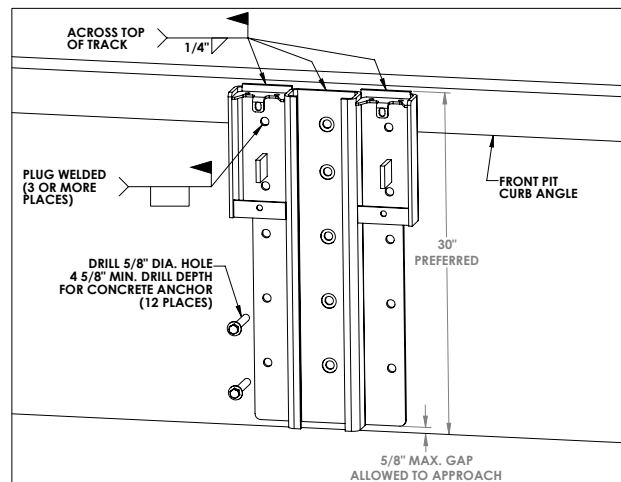

FIGURE 3—ANCHORING ROLLER TRACK
Install roller track onto dock face at specified location by welding to an embedded steel plate or by using fifteen (15) concrete anchors provided in conjunction with welding to pit steel and a leveler frame. Refer to Figures 3, 4, and 5.
4. Install all anchors and torque to 60 ft-lbs. See Figure 3.